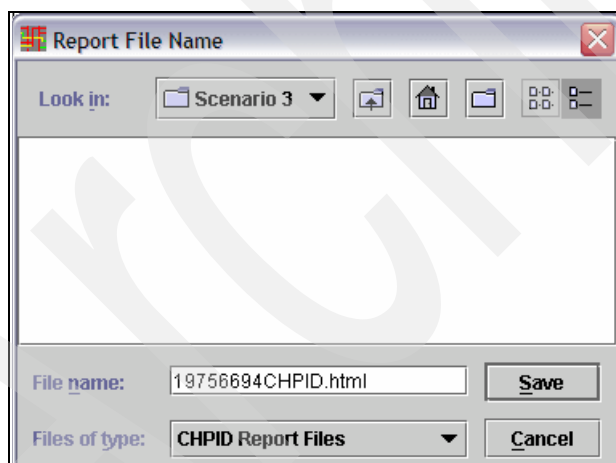

Figure 5-43 CMT - Report File Name
2. Enter the report File name, or accept the name that the CHPID Mapping Tool enters and click **Save** (Figure 5-43).